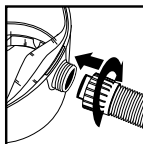

FIGURE 25
35. Reinsert hose into inlet and tighten the locking-nut. **FIGURE 25.**